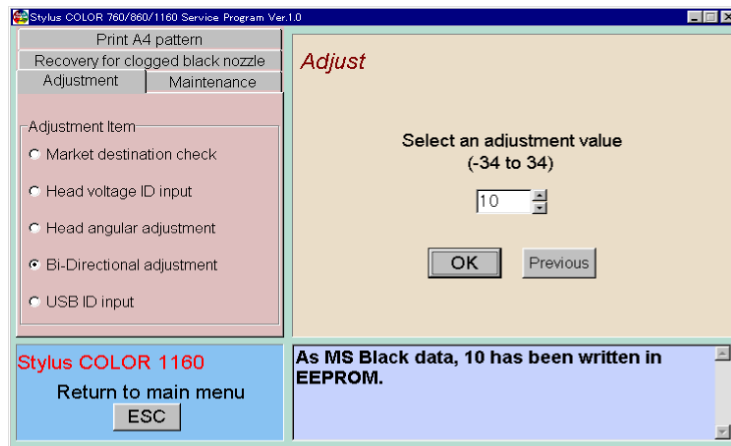

Figure 5-28. Input the suitable value
7. Check the printed pattern again and Input the suitable value in the above menu and click the “OK” button. The input value is written in the specific address of the EEPROM. Refer to Figure 5-28.